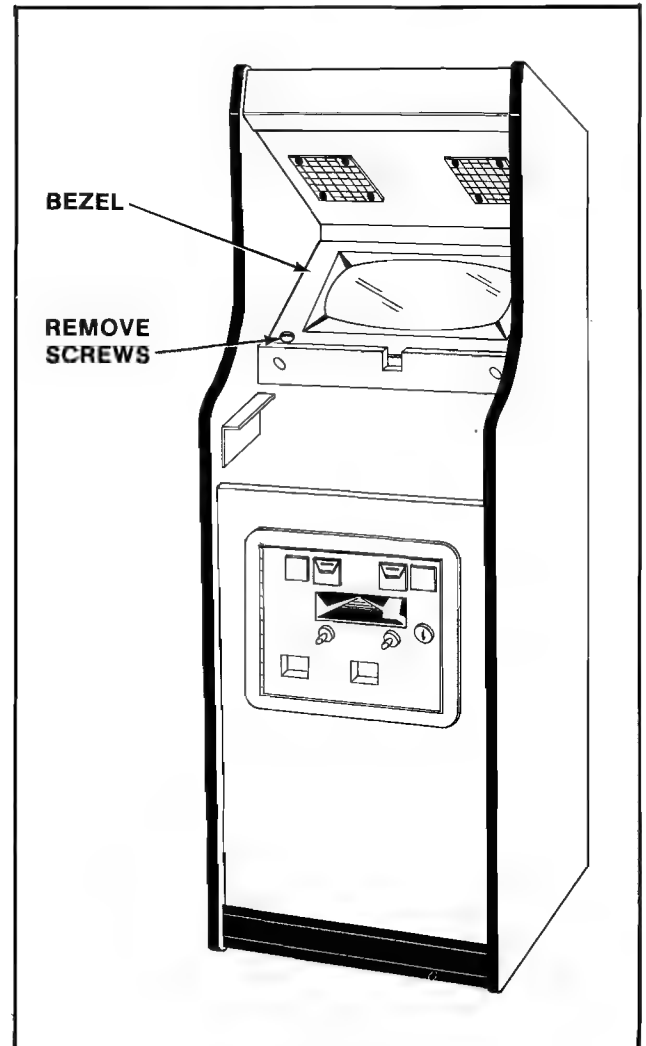

Figure 19 Removing bezel — Mini game
- Remove the screws which secure the T.V. bezel assembly and lift it out. See Figure 19.